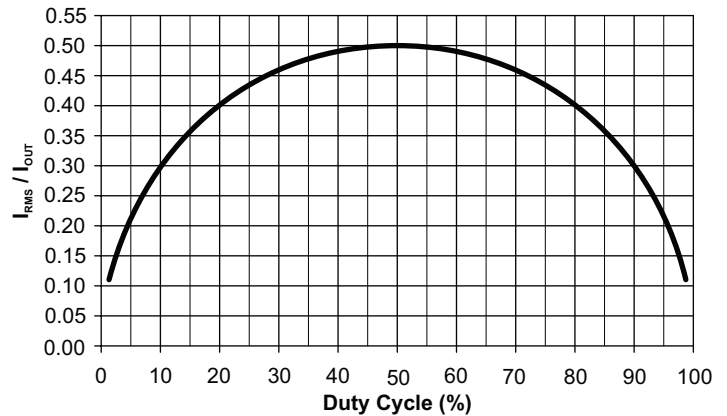

Figure 5: Input Capacitor Ripple vs. Duty Cycle
where the duty cycle D is $D \approx V_{OUT} / V_{IN}$. Figure 5 shows the normalized input capacitor RMS current versus duty cycle. To use this graph, simply find the operational duty cycle (D) on the x-axis and determine the input/output current multiplier on the y-axis. For example, at a 20% duty cycle, the input/output current multiplier is 0.40. Therefore, if the regulator is delivering 3.0 A of steady-state load current, the input capacitor(s) must support 0.40×3.0 A or $1.2 A_{RMS}$.